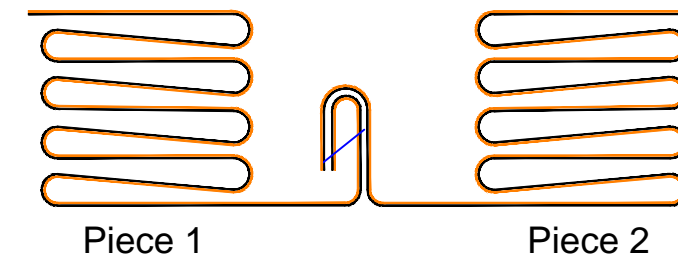

FIGURE 2
3. FOLD THE SEAM OVER AND SEW THE ENTIRE SEAM AS SHOWN IN THE GENERAL INSTRUCTIONS, (FIGURE 2)